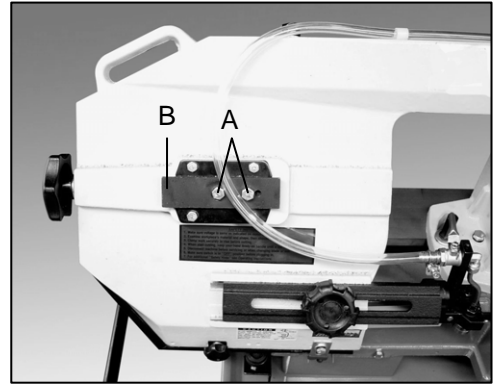

Fig. 14
5. Loosen bolts (A, Fig.14).
6. Turn setscrew (B) while observing blade tracking on wheel. Turn setscrew clockwise to track blade closer to the wheel flange. Turn set screw counter-clockwise to track blade away from the wheel flange.
7. Once tracking is set, tighten bolts (A).